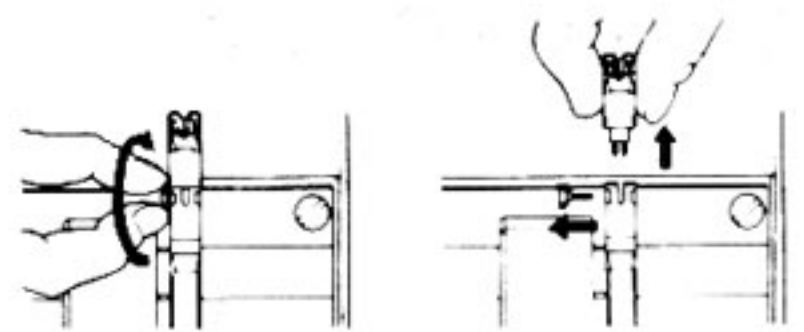

Fig. 1
2. Remove the setscrew and pull out the cartridge. (Fig. 1)